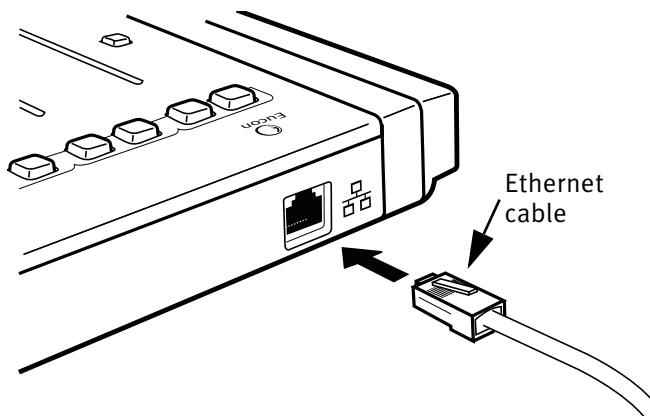

Figure 2-8 Ethernet cable and rear panel jack
5. Plug one end of the Ethernet crossover cable into the Ethernet jack (labeled with ) on the rear panel of the MC Mix (Figure 2-8).